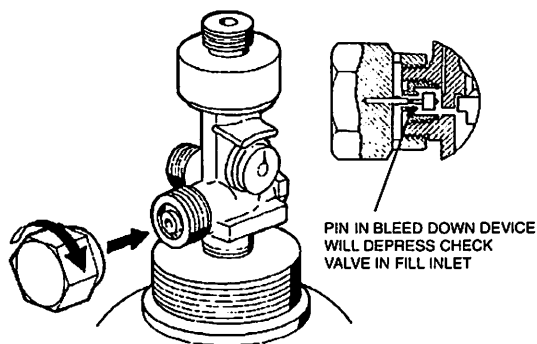

FIGURE 6
- b. Attach bleed down device, Part No. 426028, to valve fill inlet. See Figure 6.